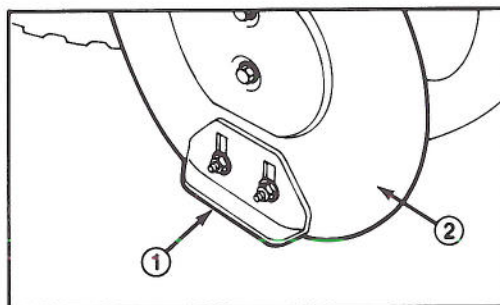

Figure 20
1. Move snowthrower to a level surface. Next, loosen four flange nuts (Fig. 20) securing both skids to auger side plates. Skids must slide up and down.
3. Loosen four flange nuts (Fig. 20) securing both skids to auger side plates. Next, slide skids down as far as possible so auger is as far from level surface as skid adjustment allows; then tighten flange nuts.